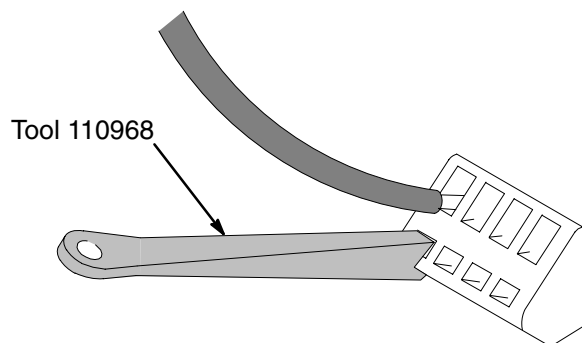

Fig. 9
4. To remove wires, use the accessory tool, P/N 110968 or a 3/16 in. wide screwdriver. Insert the tool into the slot below each wire on the terminal block, push the tool away from the wire and pull out the wire. See Fig. 9.